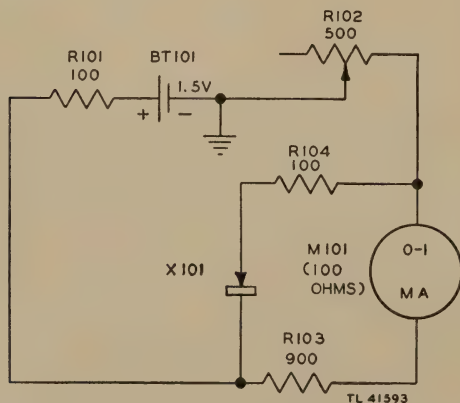

Figure 18. Circuit for second MTR ADJ position, schematic diagram.
e. *ADJ METER Position* (fig. 18). When the selector switch is in this position (position 4) battery BT101, fixed resistor R101, and variable resistor R102 are connected in series with a two-branch parallel circuit, consisting of the crystal rectifier and resistor R104 in one branch, and meter M101 and resistor R103 in the other branch. The crystal rectifier holder terminals are connected so that the backward resistance of the crystal is in the circuit. Since the backward resistance of the crystal rectifier is quite high, the effective resistance of the parallel circuit is essentially that of the branch containing the meter and resistor R103, or 1,000 ohms. This circuit is used to adjust the meter pointer to full-scale deflection before measuring the current in the reverse direction